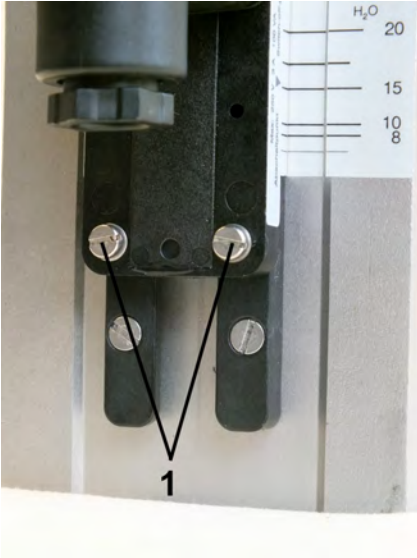

Fig. 34: Loosen set screws
1. ➤ Loosen the switch contact set screws (Fig. 34/1) using a flat-bladed screwdriver.
3. ➤ Re-tighten the switch contact set screws (Fig. 34/1) using a flat-bladed screwdriver. Observe the correct tightening torque